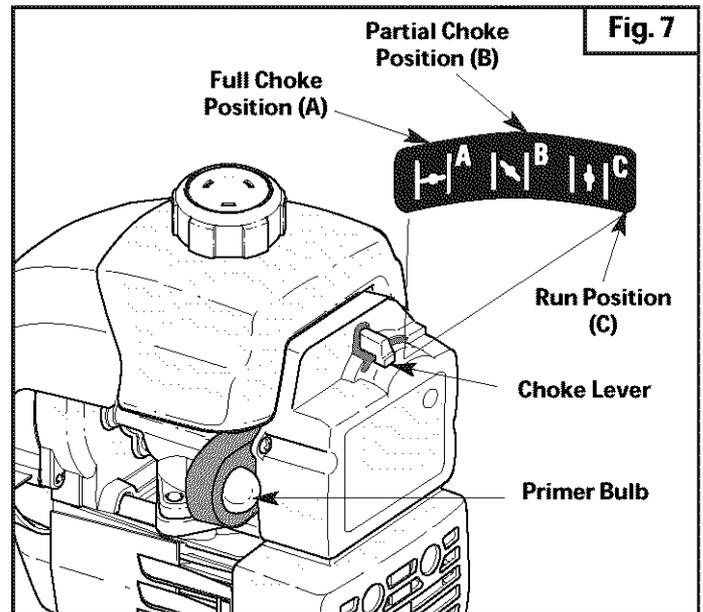

Fig. 7
3. Fully press and release the primer bulb 10 times, slowly, until **FUEL IS VISIBLE IN THE PRIMER BULB** (Fig. 7). If you can't see fuel in the bulb, press and release the bulb as many times as it takes before you can see fuel in it.
4. Place the choke lever in the **FULL** choke (A)  position (Fig. 7).
6. Place the choke lever in the **PARTIAL** choke (B)  position (Fig. 7).
9. Squeeze the throttle control to warm up the engine for 5 to 10 seconds. Place the choke lever in the **RUN** (C)  position (Fig. 7).
NOTE: Choking is unnecessary when starting a warm engine. Start the unit in the **PARTIAL** choke (B)  position (Fig. 7). After starting, place the choke lever in the **RUN** (C)  position (Fig. 7).